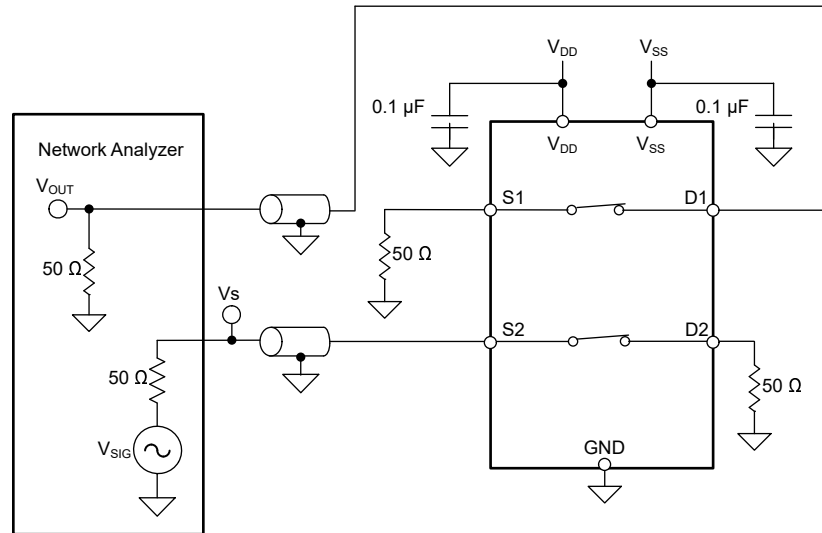

图 6-9. Crosstalk Measurement Setup
Crosstalk is defined as the ratio of the signal at the drain pin (D) of a different channel, when a signal is applied at the source pin (S_x) of an on-channel. 图 6-9 shows the setup used to measure, and 方程式 3 shows the equation used to calculate crosstalk.